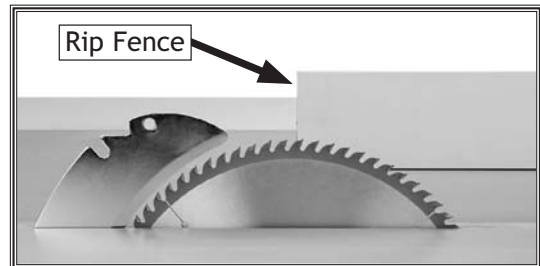
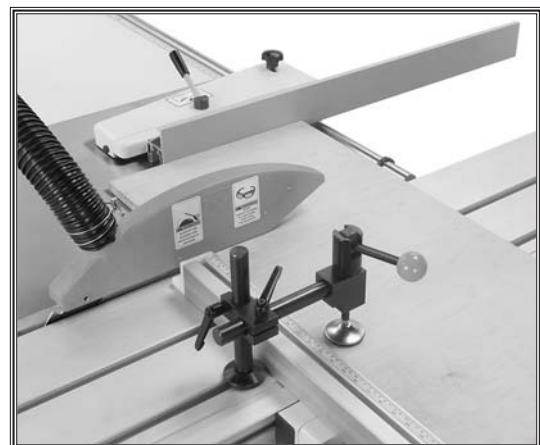

Figure 70. Rip fence even with center of blade (blade guard removed for clarity).
Figure 74. Crosscutting workpieces using the rip fence as a cut-off gauge.
4. Slide the leading end of the rip fence so it is even with the center of the main saw blade as shown in **Figure 70**.
In addition, this machine has the capability of crosscutting workpieces while using the rip fence as a cut-off gauge (**Figure 74**)—as long as the rip fence is positioned in front of the blade (see **Figure 70**).
4. Load the workpiece onto the table saw (**Figure 74**).